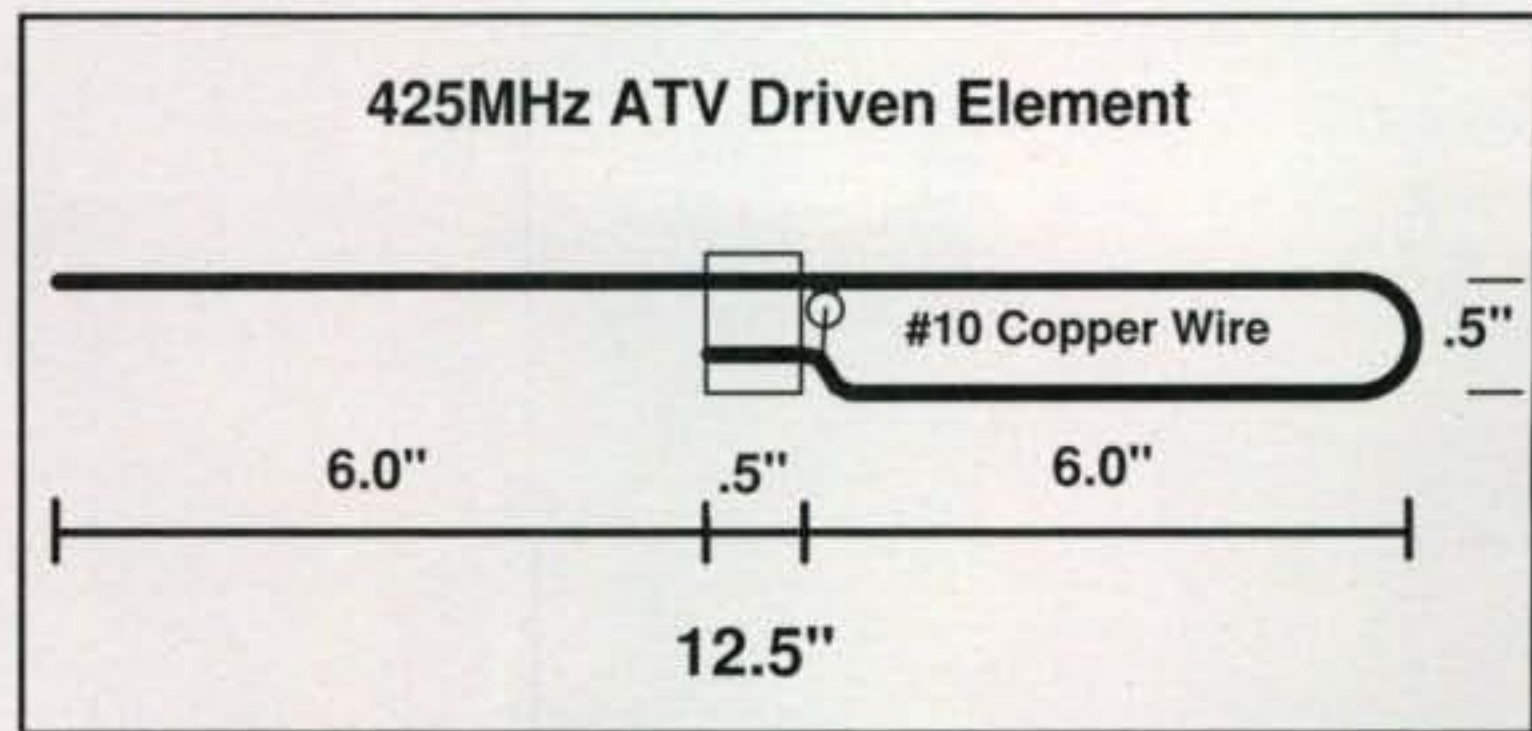

Fig. 2— Driven-element dimensions for all three versions.
Dimensions for the driven element are in fig. 2; element lengths and spacing for 6-element, 9-element, and 11-element versions are in Table I. With the 6-element expect about 10.5 dBi gain, the 9-element just over 12 dBi gain, and the 11-element just over 13 dBi gain. All three antennas showed about a 30-dB front-to-back ratio.
*All versions use the same Driven element as shown in fig. 2.